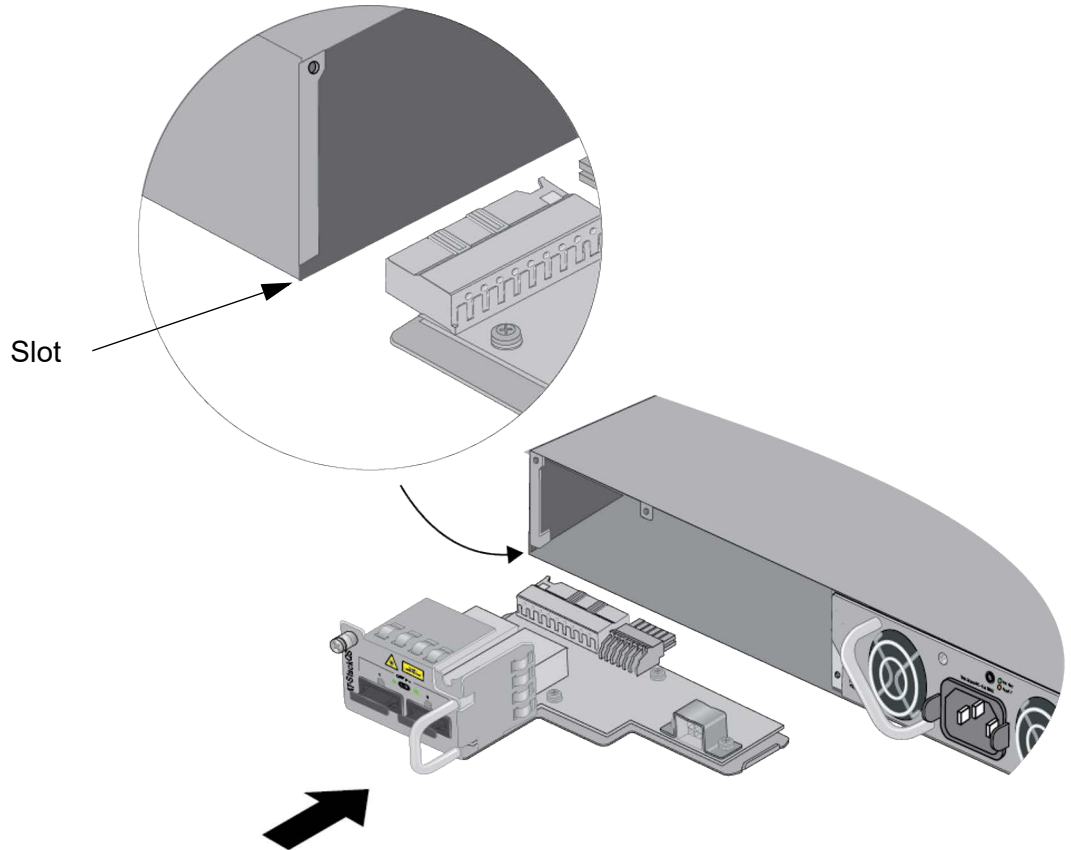

Figure 46. Aligning the Card in the Slot
8. Carefully align the card in the slot and slide it into the switch. The left edge of the card fits into the slot in the bottom corner of the switch. Refer to Figure 46 on page 109.